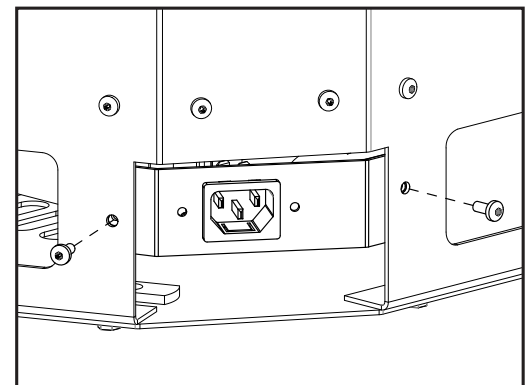

Figure 83: Electrical Plug Disconnect
1. Disconnect the IEC outlet plate (see Figure 83).